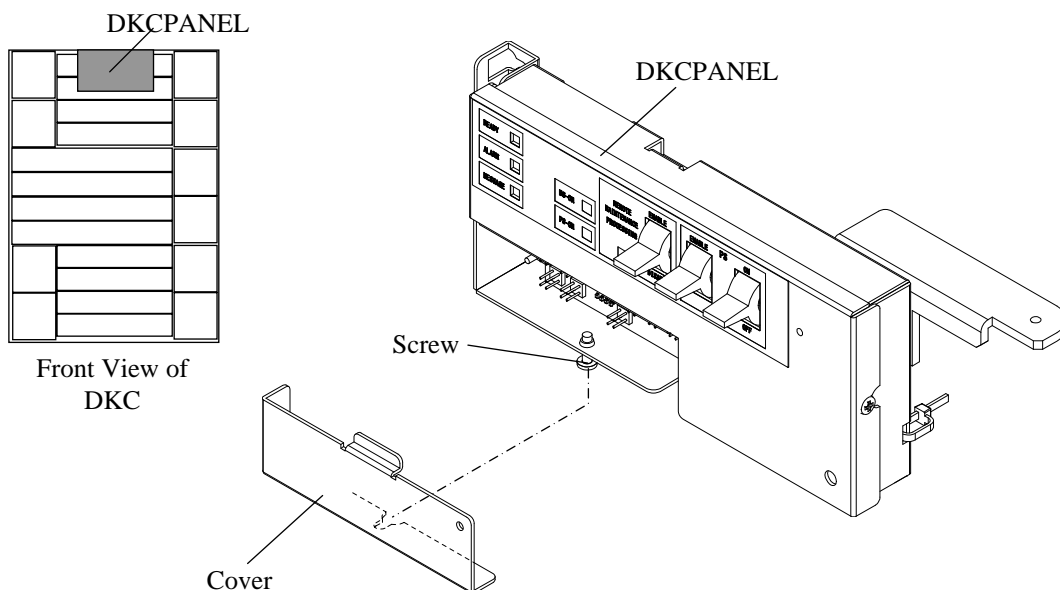

Fig. 16-1 Removal of Cover
- h. Install the cover on the DKCPANEL, and secure it with the screw. (Refer to Fig. 16-1.)